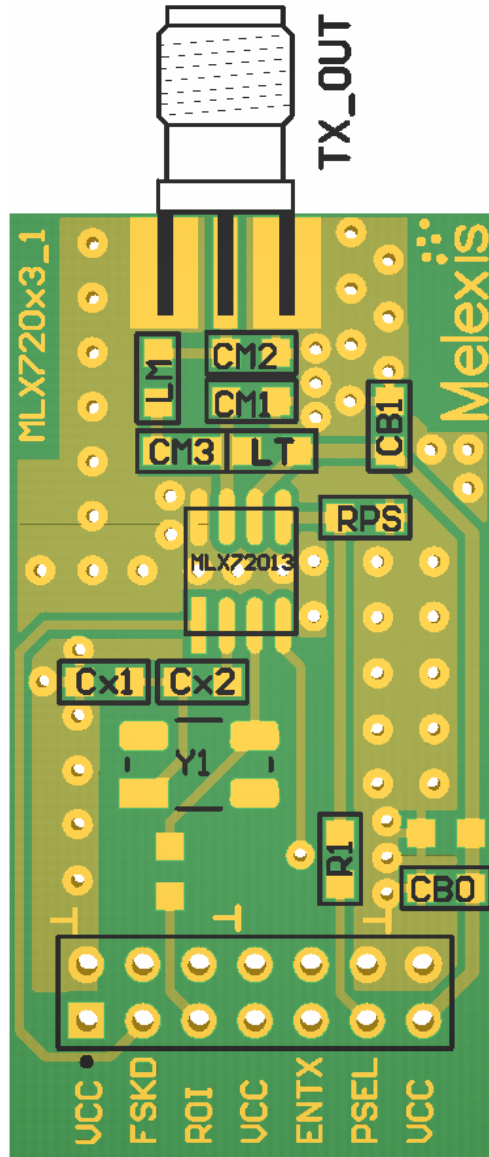

Fig. 7: PCB population
9.1 Board Component Values to Fig. 7